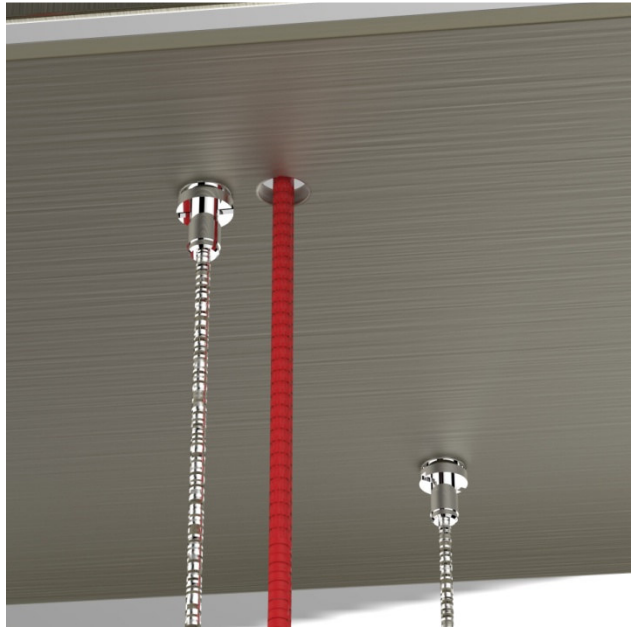

Figure 8
- With all of the housing units attached, slight leveling adjustments may be made by loosening the threaded collars on the cable grips. (Figure 8)